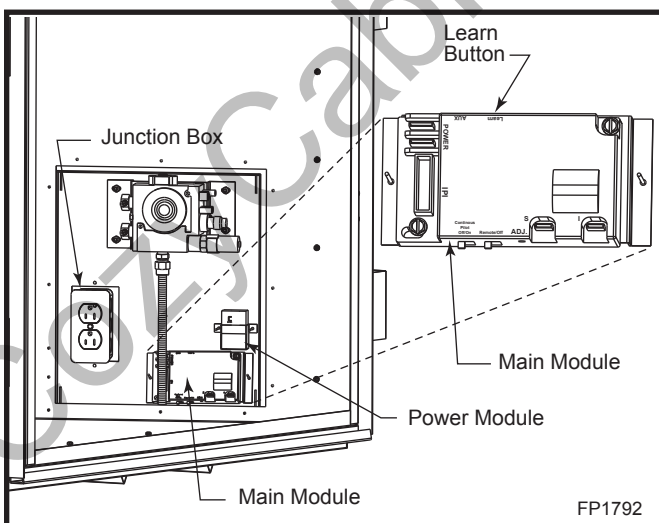

Fig. 11 Connect 120V AC electrical supply.
The gas control system is located on the right hand side of the firebox behind an access panel and the decorative brick panel. The fireplace is operated using only the hand held remote control unit. The system wiring diagram is shown in Figure 11. **NOTE: If you choose to install either the optional battery back-up module, (Model DVTBBK), or the optional wireless wall mountable remote control, (Part #20012267), it is easier to install these at the time of fireplace installation. Refer to Items #11 & #20 in the next section.**
20. Locate the learn button on the main module. (Fig. 11) Press and release the learn button using a pencil point. There will be a beep sound from the module. Then press any key on the hand-held remote control transmitter. Once the module's internal receiver accepts the transmitter code, there will be a series of confirming beeps. If you are using the optional wall mountable remote control transmitter, press the learn button on the main module a 2nd time. There will be a beep sound from the module. Then press the ON button on the wall mountable transmitter. Once the module's internal receiver accepts the transmitter code, there will be a series of confirming beeps.